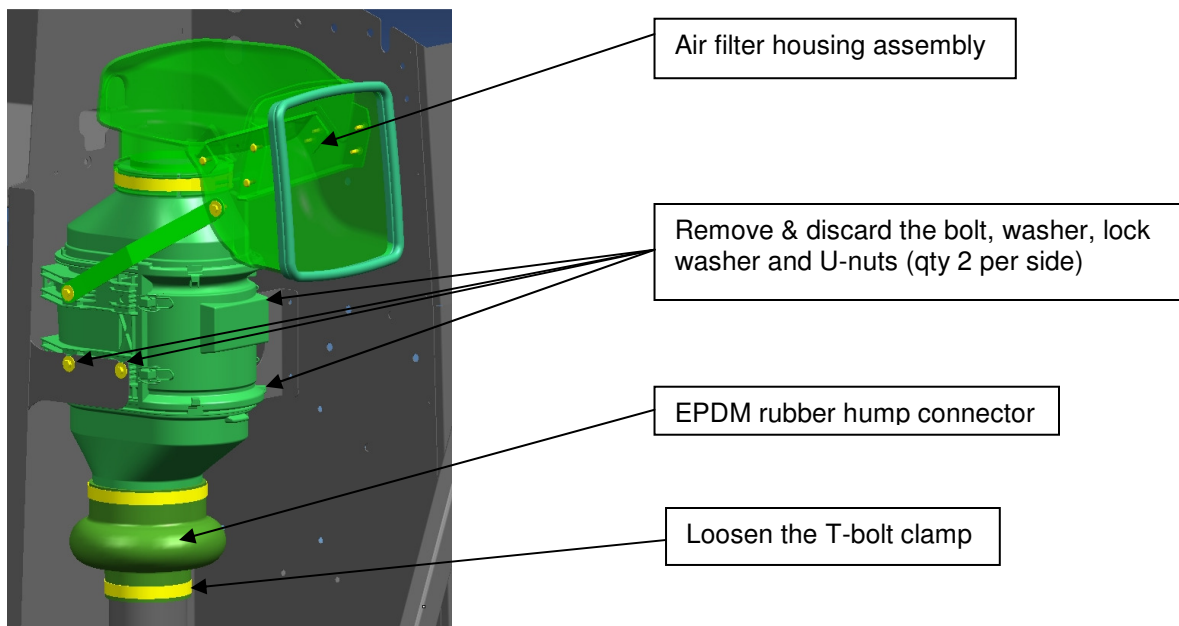

Figure 4: Air Filter Housing Removal
10. Remove the bolt, washer, lock washer & U-nuts that attach the air cleaner housing to the air cleaner mounting brackets, typical two (2) places on either side of the housing, hardware is to be discarded. See Figure 4.
11. Loosen the 5.50" T-Bolt clamp located between the rubber hump and the rear shelf air tube. See Figure 4.
12. Remove the housing by lifting up on the housing and the rubber hump connected to the bottom of the housing. When the bottom of the housing is free of the rear shelf air intake tube tilt the top toward the curbside of the Bus and pull it through the corner pillar door opening. Set T-bolt clamp aside for reuse later in this install. See Figure 4.